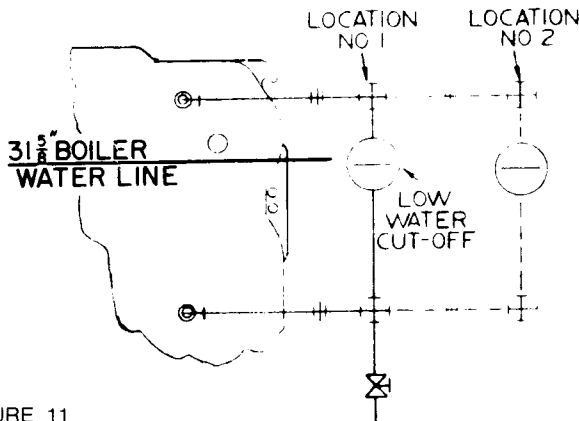

FIGURE 11
2. Install the low water cutoff (see FIGURE 11) in accordance with the CONTROL TAPPINGS Table and FIGURE 5. Where an optional low water cut-off, combination low water cut-off and feeder, or combination low water cut-off and pump control is employed, install the control in accordance with the CONTROL TAPPING table and FIGURE 5 using fittings (not furnished). If a low water cut-off is to be used that is not dimensionally diagrammed in FIGURE 11, locate the cast-on body mark of the control 2" below the normal water line. Do not use a water level control with quick hook-up fittings on any No. 76 steam boiler.
3. Where an optional 1" low water cut-off is employed, install the control in accordance with the CONTROL TAPPINGS table and FIGURE 5 using the fittings (not furnished). Refer to FIGURE 11 for positioning. If a low water cut-off is to be used that is not dimensionally diagrammed in FIGURE 11, refer to the separate manufacturer's instructions for locating the control.